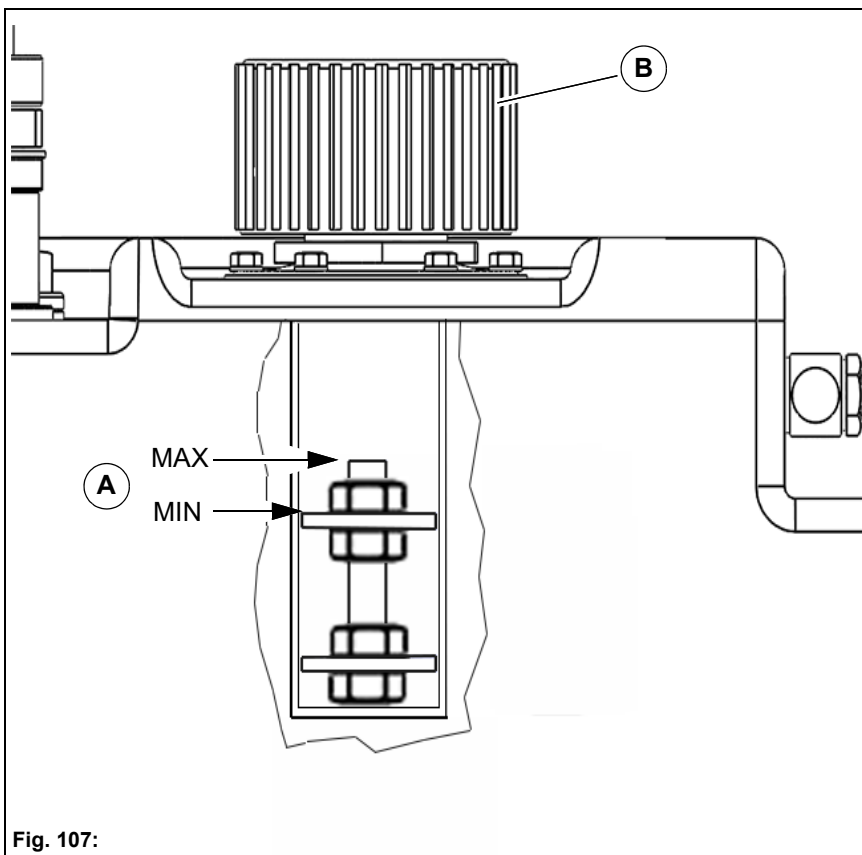

Fig. 107:
Check the hydraulic oil level weekly at the level indicator **Fig. 107-A** and top up as required.
2. Unscrew the cap **Fig. 107-B** and top up with hydraulic oil. Filling volume/Specification, see Technical data on page 103.